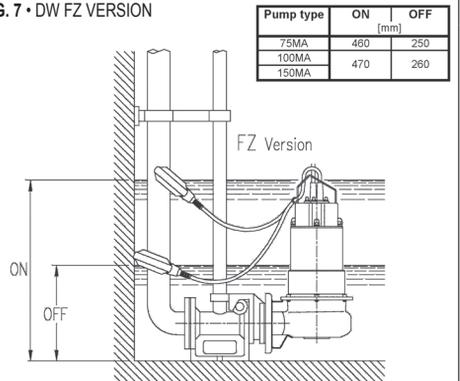

FIG. 8 • OPTIMA – BEST ONE – BEST ONE VOX
7.1. ELEKTROPUMPE OPTIMA - BEST ONE - ONE VOX (ABB. 8)